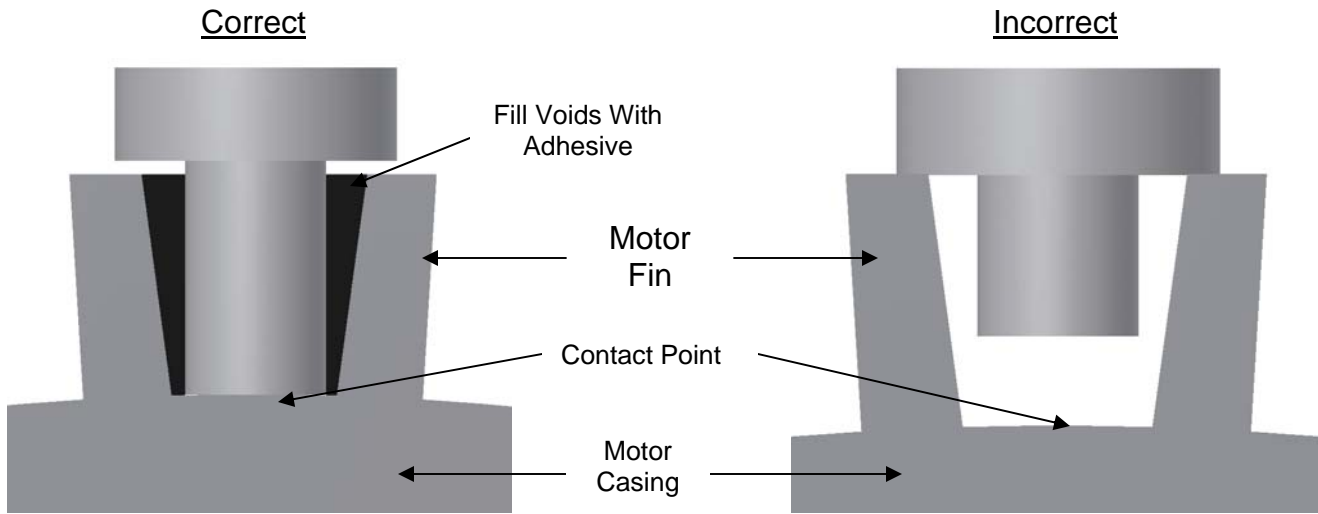

Figure 2. Installation of Motor Fin Mounts
- The tip of the motor fin mount probe/pad should be as flat against the motor casing as possible. (*Figure 2*)